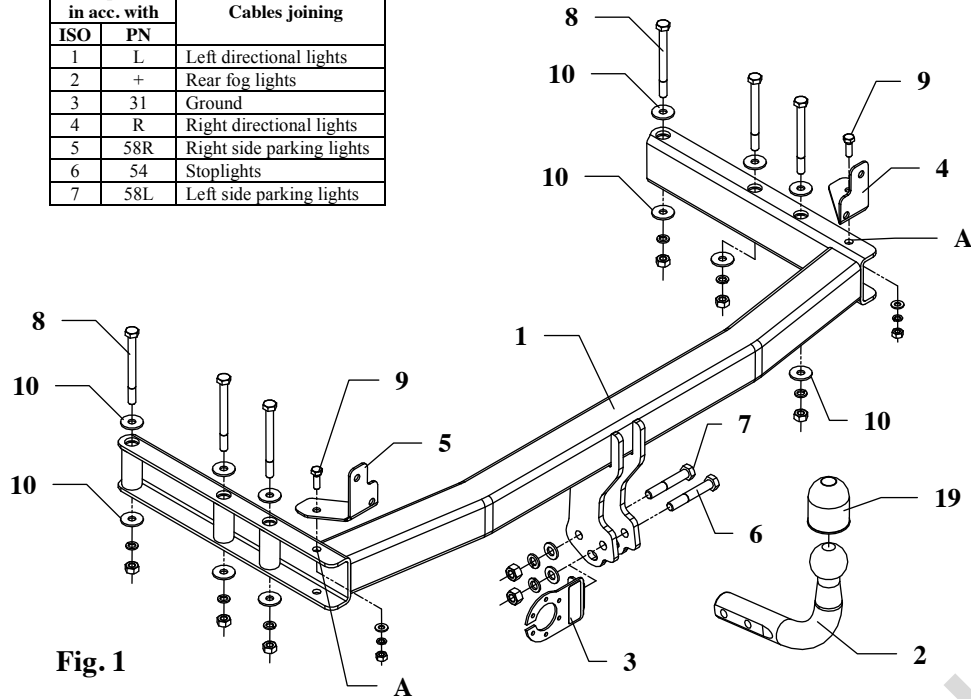

Fig. 1
3. Through holes of towbar pos. A fix handles (pos. 4 and 5) using bolts M8x25mm (pos. 9).
5. Main bar of the towbar together with bumper. slip into chassis members in this way, so holes of towbar agree with original prepared holes and fix from inside bumper using bolts M10x110mm (pos. 8) as shown in figure 1.
7. Fix tow-ball (pos. 2) and socket plate (pos. 3) using bolts M12x75mm (pos. 6) and M12x70mm (pos. 7) from accessories.